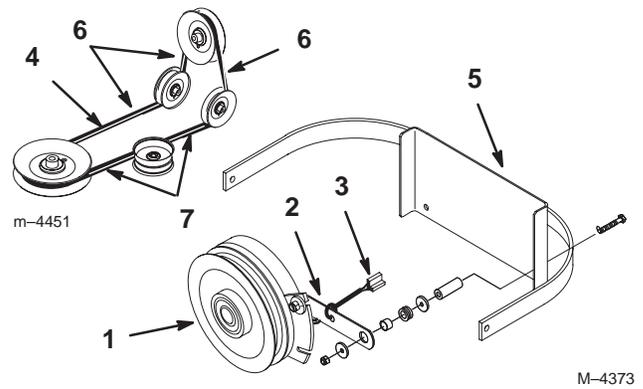

Figure 67
2. Remove the clutch retaining strap from machine frame and unplug clutch terminal from wire harness (Fig. 67).
3. Remove PTO drive belt from rear idler arm and front idler pulley assembly. Remove the PTO drive belt (Fig. 67).
4. Place new drive belt over clutch, around rear idler pulley, installed into rear idler arm assembly, installed into front idler pulley assembly and onto top center pulley (Fig. 67).
Important Check the amount of twist in belt between pulleys. Make sure it is only what is specified in figure 67.
5. Install clutch retaining strap and plug clutch terminal into main wire harness (Fig. 67).